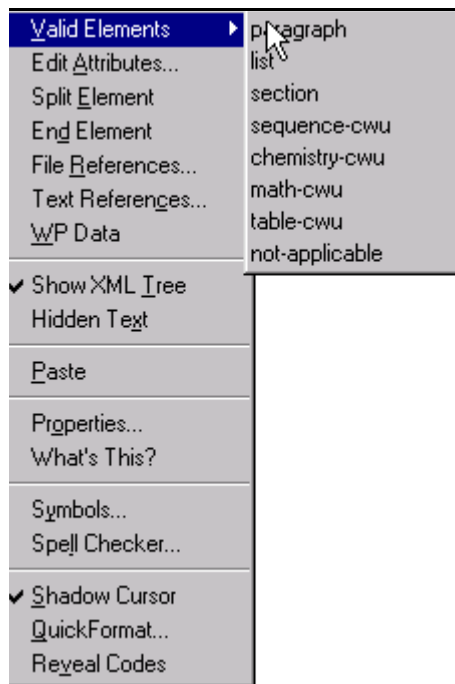

Figure 5-2 Right Click and Insert Element
3. Click the needed element in the submenu to insert it (see Figure 5-2).